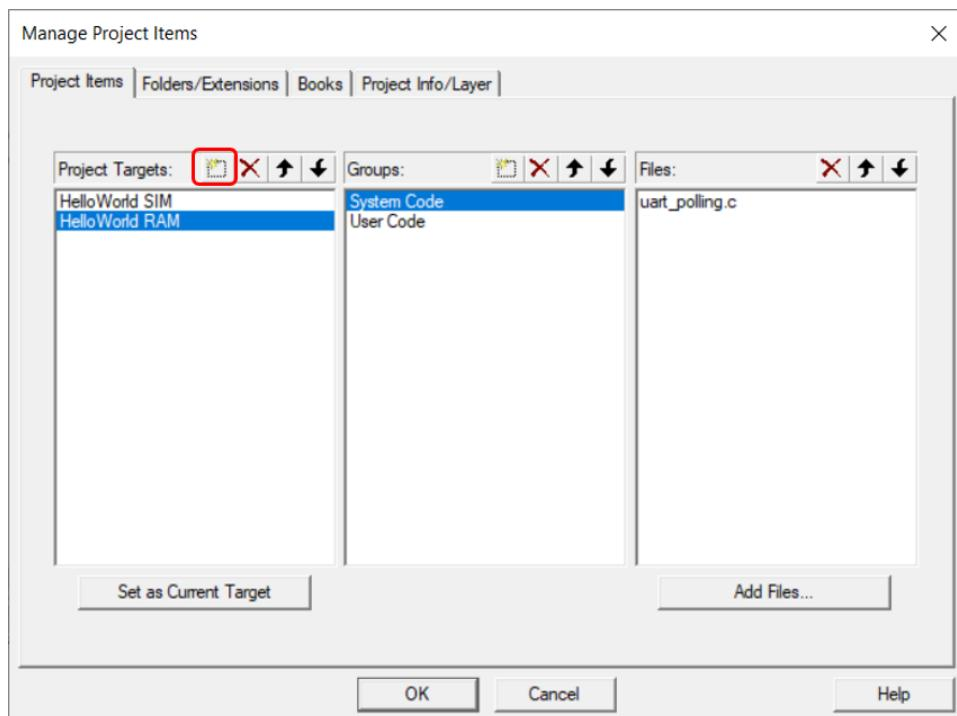

Figure 8.25: Keil IDE: Manage Project Items Window.
2. Press the New icon to create a new target and name it "HelloWorld RAM" (see Figure 8.25). The new target duplicates the HelloWorld SIM target configuration.